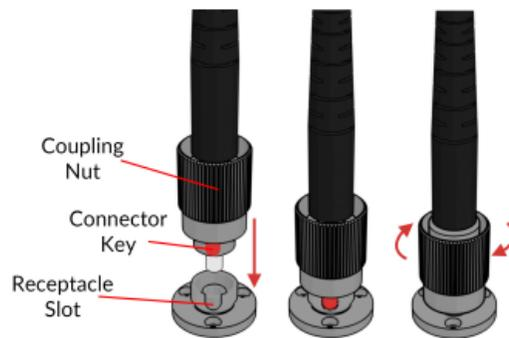

Figure 3.2: Proper Optical Connection
- If the waveform amplitude is **TOO LOW** (Fig. 3.8a), gently increase the gain using the *Detector Gain Knob* on the *FluoPulse™* cube (Fig 2.3), or change the ND filter to one with a higher transmission (25 % or 100 %), and take your measurement once more. Do not increase the gain above the middle of the scale before changing the ND filter – in other words, if the sample allows, it is better to generate more signal with a more powerful laser pulse than to just increase the gain. If the gain is already at the maximum value and the filter is already at 100%, check the fiber-optic patch cord / rotary joint / cannula connections, as poor connections reduce the transmission of the signal (see Fig. 3.2). If there are no connection issues, check the expression level of the biosensor and the location of the fiber in the brain ².